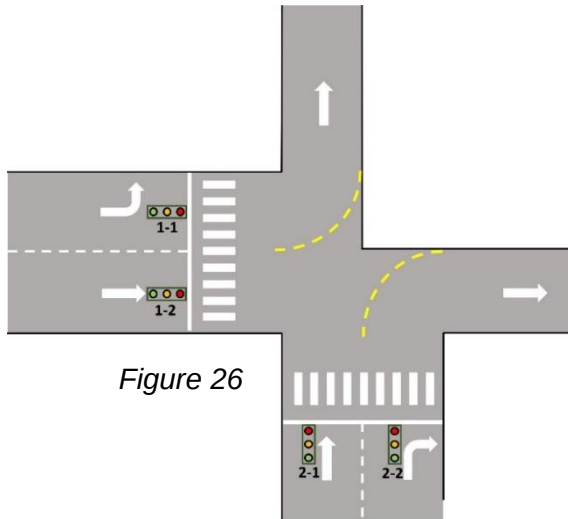

Figure 26
- “Draft Layout_4 lights” **Figure 26**